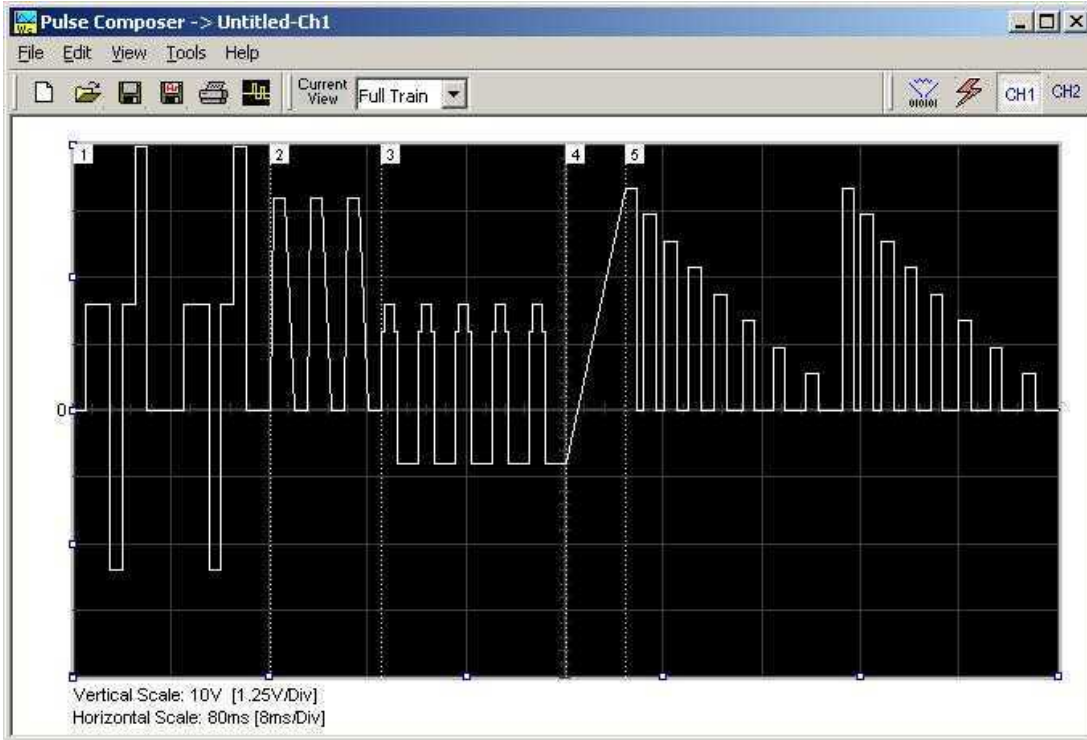
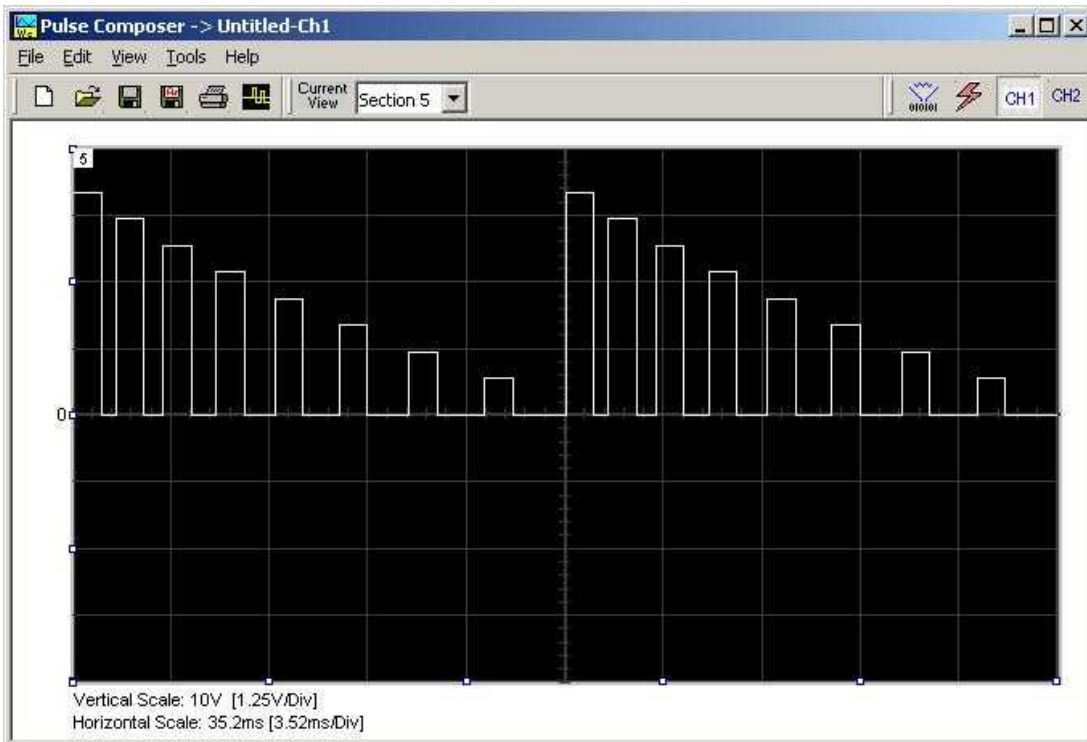
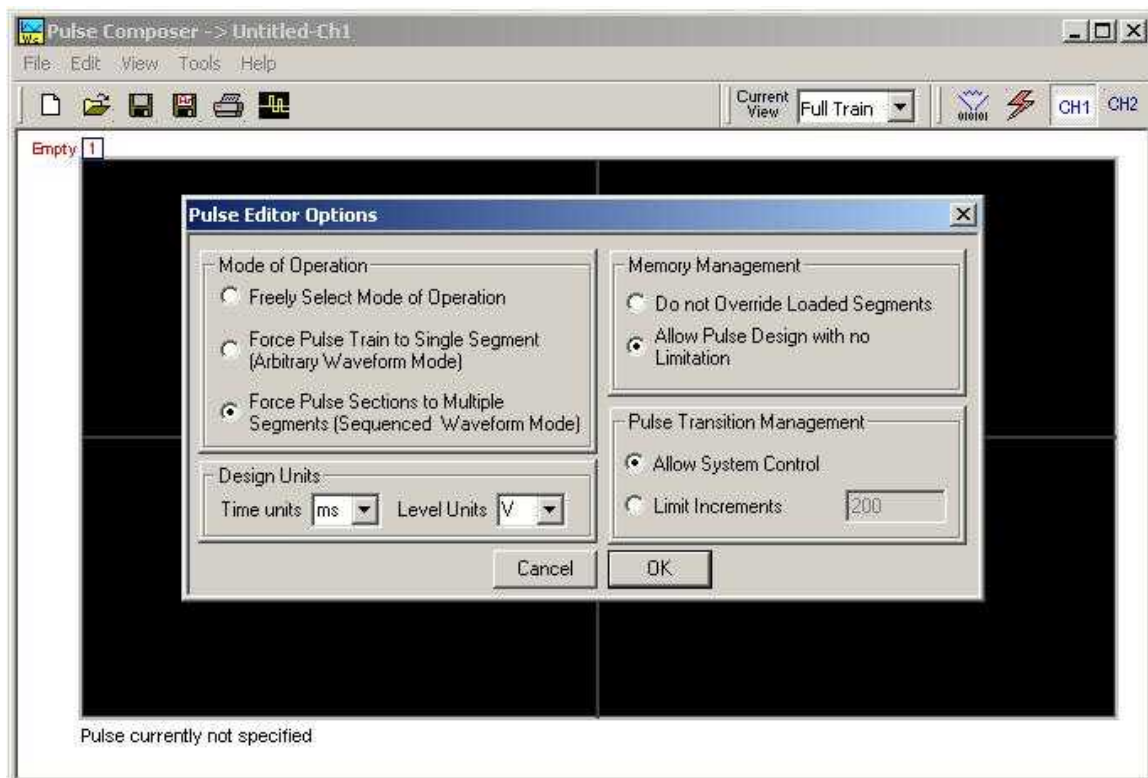
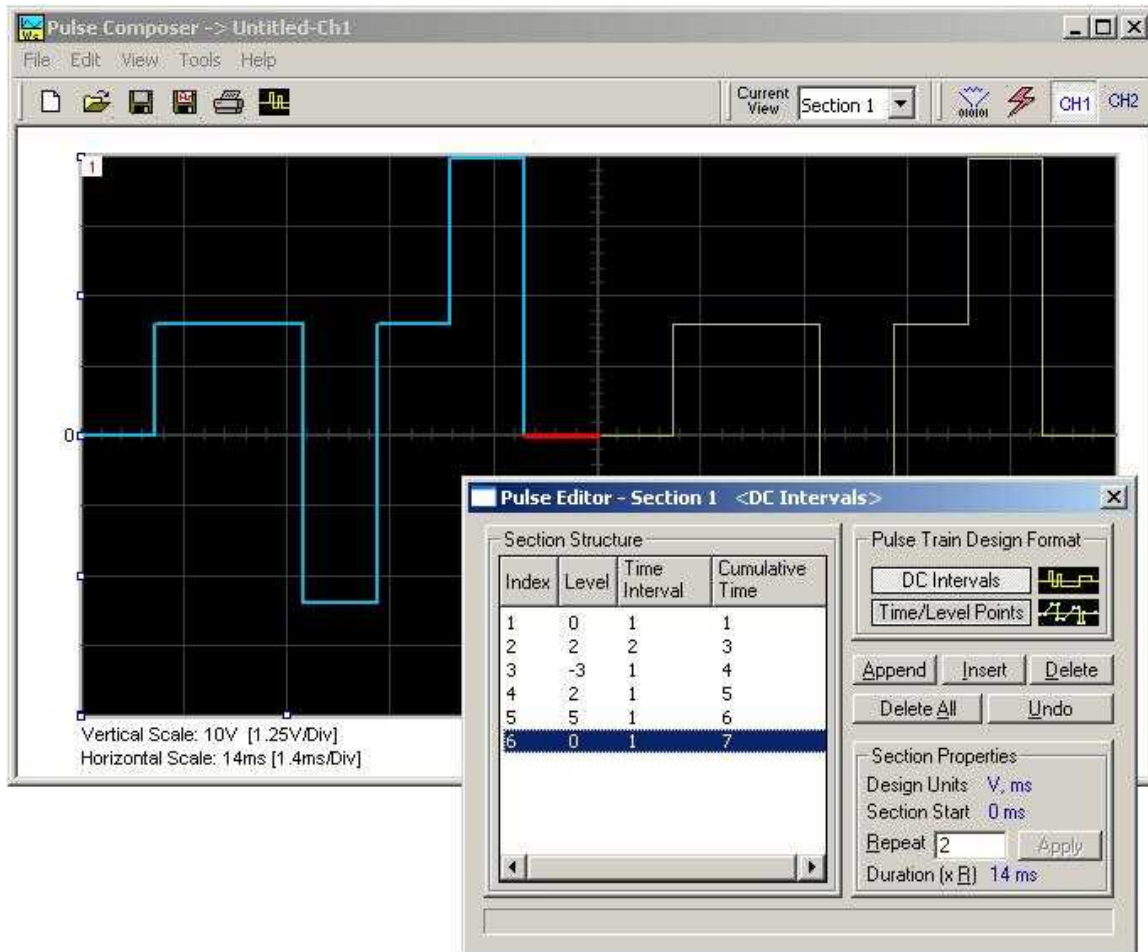

Figure 4-34, Complete Pulse Train Design
Figure 4-35, Section 5 of the Pulse Train Design
Figure 4-36, Selecting Pulse Editor Options
Figure 4-38, Building Section 1 of the Pulse Example
Pulse train is constructed from 1 or more sections. If the pulse is simple, it can be created using one section only. For more complex pulse train, the train can be divided to smaller sections and each section designed separately for simplicity. Figure 4-34 shows a complex pulse train which was made from five simpler sections and Figure 4-35 shows the design of the fifth section only of the pulse train.
Now that we somewhat understand the terms we use for the pulse design, we start with an example how to design the pulse train as shown in Figure 4-34. If you already have some pulses shown on your pulse composer screen, click on New to start from a fresh page. Another step before you design your pulse train is to set the design parameters in the options menu that will determine the way that the pulse will be distributed in your waveform memory. Click on View→Options and refer to Figure 4-36 throughout the following description.
As shown in Figure 4-36, the pulse editor option dialog box is divided to functional groups: Mode of operation, Design Units, Memory Management and Pulse Transition Management. These groups are described below.
Now that we are better familiar with the pulse editor and its options, we are ready to start building the first section of the pulse as shown in Figure 4-34. Point and click on the New icon and open the pulse editor. Type in the level and time intervals as shown in Figure 4-38. Note that the pulse segments are being created on the screen as you type the values.
The first pulse section is complete. We are ready now to start building the second section of the pulse as shown in Figure 4-34. Point and click on the Edit command and select the Append Section option. A new section number will appear but it will show empty next to the section identifier.
The second pulse section is complete. We are ready now to start building the third section of the pulse as shown in Figure 4-34. Point and click on the Edit command and select the Append Section option. A new section number will appear but it will show empty next to the section identifier.
The third pulse section is complete. We are ready now to start building the fourth section of the pulse as shown in Figure 4-34. Point and click on the Edit command and select the Append Section option. A new section number will appear and will show empty next to the section identifier.
The fourth pulse section is complete. We are ready now to start building the fifth and final section of the pulse as shown in Figure 4-34. Point and click on the Edit command and select the Append Section option. A new section number will appear and will show empty next to the section identifier.
Congratulations for coming that far. If you followed the above description how to build this pulse example, the screen should look exactly as shown in Figures 4-34 and 4-42. If you are happy with the results, the next step is to download what you see on the pulse composer screen to the generator.
*Mode of Operation* – This describes the new setting of the operating mode. This field could display one of two options: Arbitrary or sequenced. Pay attention to the note (\*) that says “Select from the menu View>>Options” Since we checked the Force Pulse Train to Single Segment (see Figure 4-36), the generator determines that the waveform mode be arbitrary and only one segment can be loaded with the pulse train.